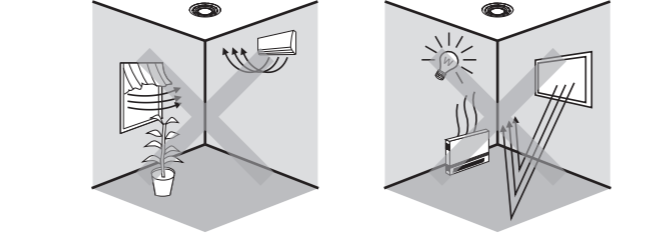

FIG.3
- Since the detector is in response to temperature change, please avoid the following conditions (See FIG.3):